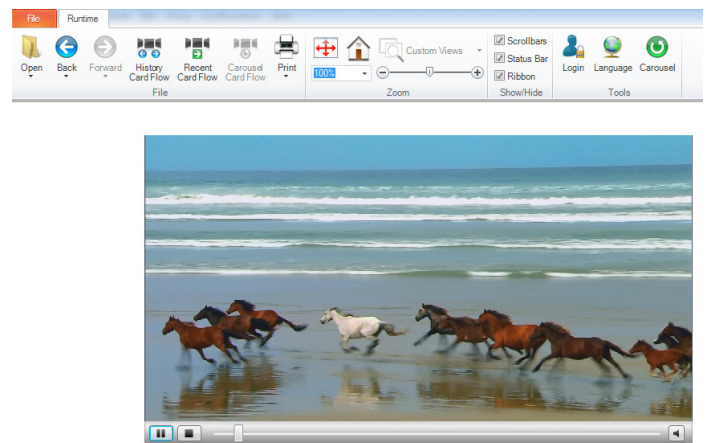

Figure 6 – Video Control in GraphWorX64
6. Enter **Runtime** mode and watch the video. You should see output similar to Figure 6.